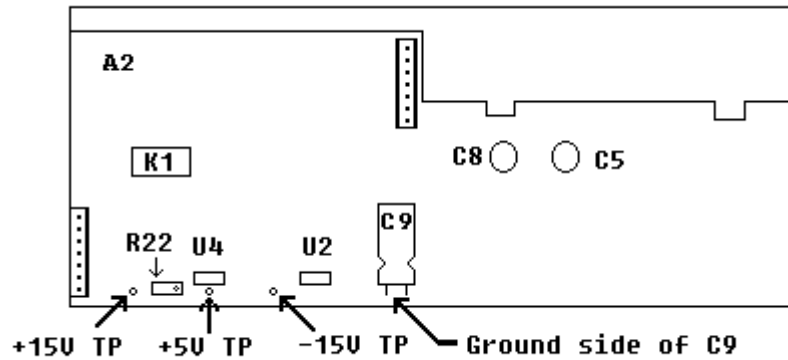

Figure 5. Power supply assembly A2 – test instrument top view.
- (1) Connect multimeter **INPUT HI** to -15 V TP (fig. 5) and **LO** to ground side of C9 (fig. 5). Adjust R22 (fig. 5) for a multimeter indication of -14.97 to -15.03 V dc (R).
- (2) Connect multimeter **INPUT HI** to +15 V TP (fig. 5). Readjust R22 (fig. 5) if multimeter does not indicate between 14.9 and 15.1 V dc.
- (3) Connect multimeter **INPUT HI** to +5 V TP (fig. 5). Readjust R22 (fig. 5) if multimeter does not indicate between 5.01 and 5.05 V dc.
- (4) Repeat (1) through (3) above for best in-tolerance condition on all test points.
- (9) Connect multimeter **INPUT HI** and **LO** to TI **SIGNAL**. Do not use 50 Ω feedthrough termination.
- (10) Enter **5 VOLT** using **DATA** keys.
- (11) Press **AMPTD CAL** key. Adjust R22 (fig. 5) until multimeter indicates 10.000 V dc.
- (12) Enter **-5 VOLT** using **DATA** keys.
- (13) Multimeter will indicate between -9.985 and -10.015 V dc.